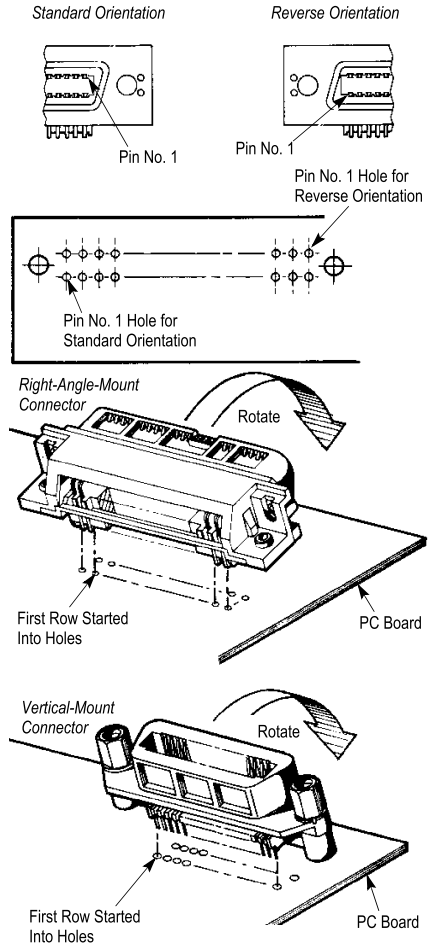

Figure 2
1. Hold connector at a slight angle to the pc board and start one row of contacts into the contact holes. See Figure 2.